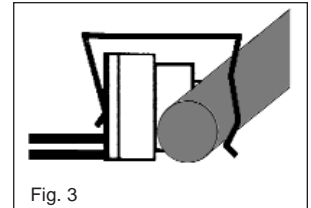

Fig. 3
2. The aquastat control is a surface temperature sensing device that must be in contact with the system piping to operate properly. Separate models include clip-on mounts for 3/4" (7/8" O.D.) and 1/2" (5/8" O.D.) copper tubing. (See Fig. 3)